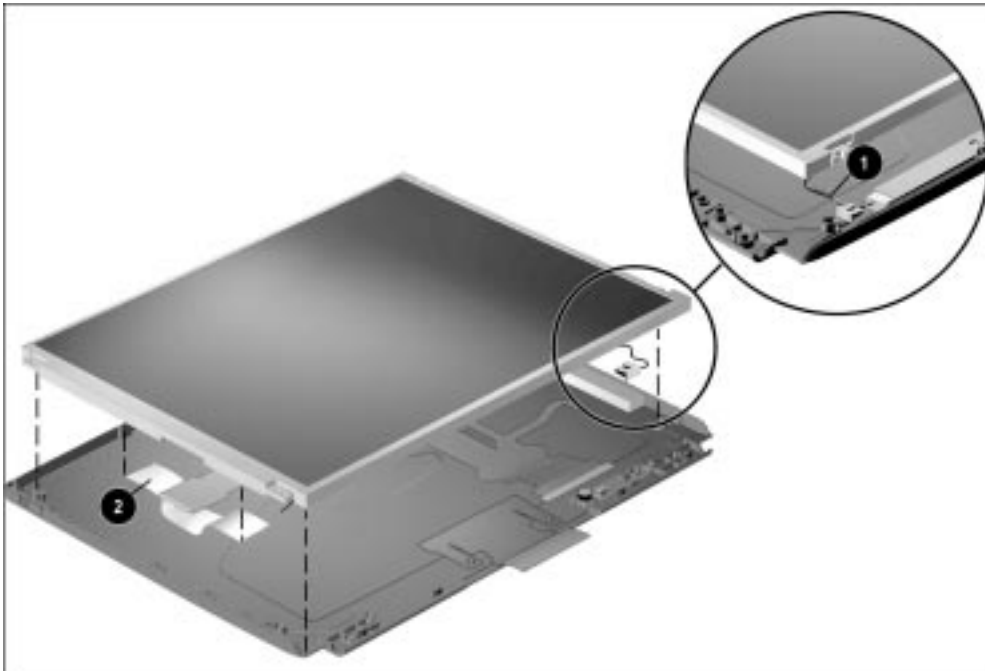

Figure 5-37. Disconnecting the Backlight Cable and Removing the Display Cable Tape
5. Disconnect the backlight cable from the inverter ❶ (Figure 5-37).
7. Remove the tape that secures the display cable to the back of the panel ❷.